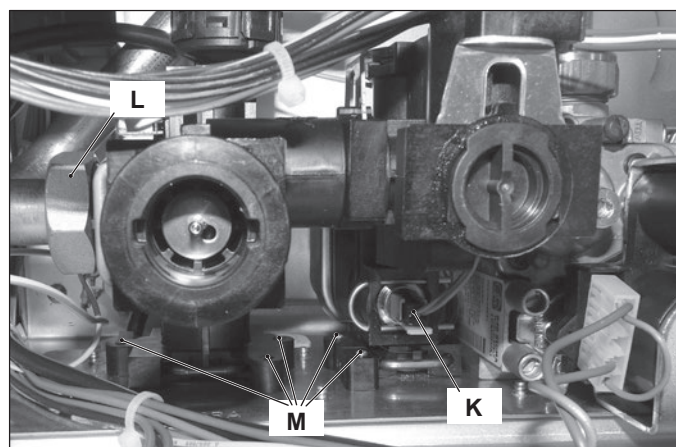

Figure 8.7
- 6 Unscrew the connector "L" (Figure 8.7), the C.H. flow connector and the D.H.W. outlet connector.